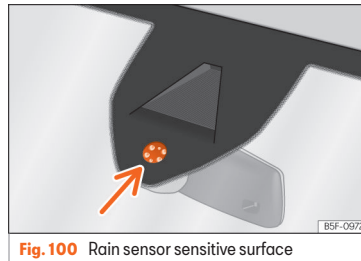

Fig. 100 Rain sensor sensitive surface
Possible causes of faults and mistaken readings on the sensitive surface »» **Fig. 100** of the rain sensor include:
- Regularly clean the sensitive surface of the rain sensor »» Fig. 100 (arrow) and check for possible damage to the wiper blades.